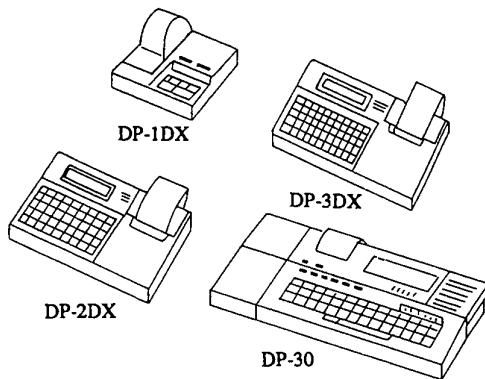

Fig. 19 Digimatic Mini-processor
6.1 Digimatic Mini-processor (Fig. 19)